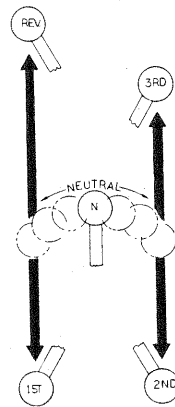

FIGURE 5
**NOTE:** It may require a little practice to become accustomed to the unique neutral crossover between the 1 - R leg and the 2 - 3 leg of the "H" shift pattern. The lever travels in a slight arc when crossing over. See Figure 5.